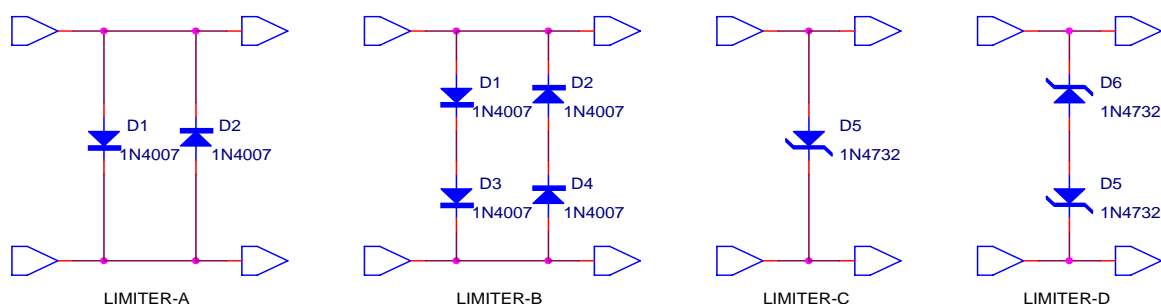

Figure E2.2b
- (b) Redraw Fig. E2.2b in your notebook and indicate in the figure which way current flows when $V_{in} = +3.0 \text{ V}$ and when $V_{in} = -3.0 \text{ V}$.